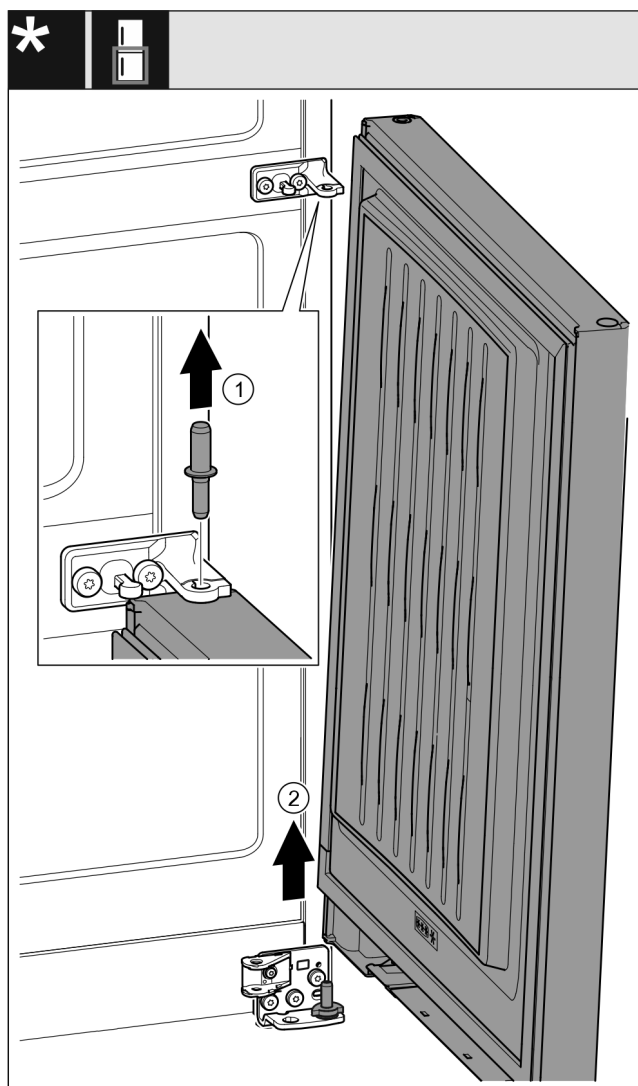

Fig. 25 *
- Pull out the bolt Fig. 25 (1) upwards.*
- Swing out the door Fig. 25 (2), pull it upwards and set it aside.*